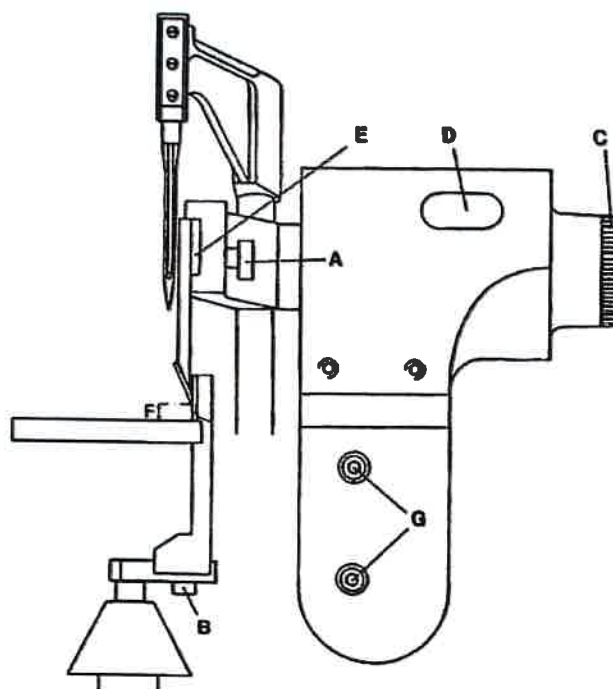

Fig. 5
Replace upper knife: Loosen screw (C, Fig. 5). Remove screw (A) to replace a new one.
Replace lower knife: Remove screw (B, Fig. 5) to replace a new one.
Turn screw (C, Fig. 5) clockwise to bring upper knife toward lower knife. Be sure that upper knife touch lower knife slightly. Loosen screw (D) to adjust upper knife holder. Check to be sure that distance (F) between upper knife and needle plate is 3mm.